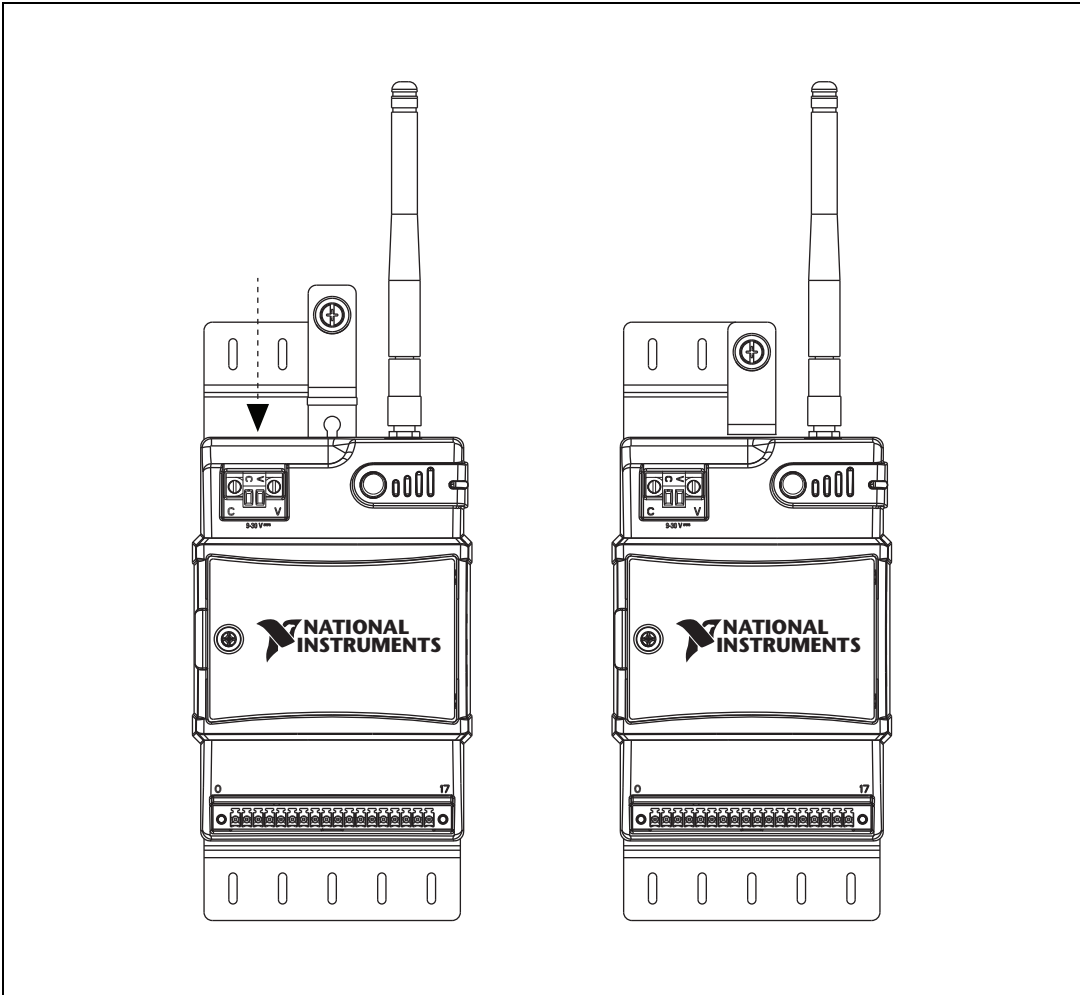

Figure 8. Slide Retention Clip Down and Tighten Panel Mount Knob
3. Slide the retention clip down and tighten the panel mount knob to secure the NI WSN-3230/3231 device, as shown in Figure 8.